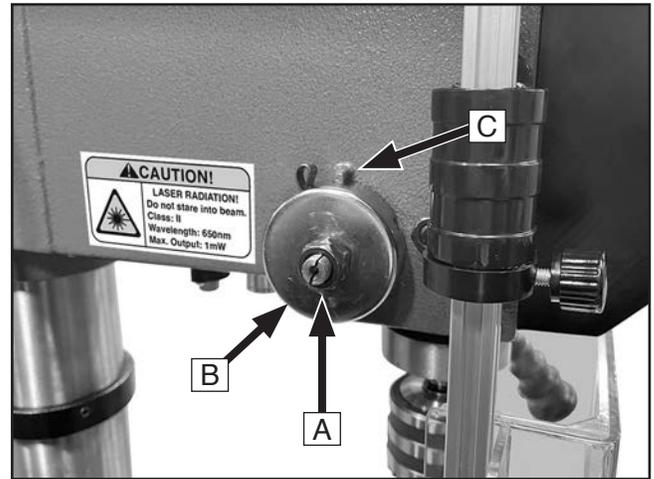

Figure 27. Return spring adjustment components.
2. Loosen two lock nuts (see **A** in **Figure 27**) approximately 6mm.
3. Firmly hold the coil spring cover (see **B** in **Figure 27**).
4. Pull out the cover and rotate until the pin (see **C** in **Figure 27**) on the return spring plate engages the next notch in the coil spring cover. Turn the cover clockwise to decrease tension and counterclockwise to increase tension.
5. Tighten two lock nuts (see **A** in **Figure 27**). Do not over-tighten. Nuts should not contact the housing when tight.